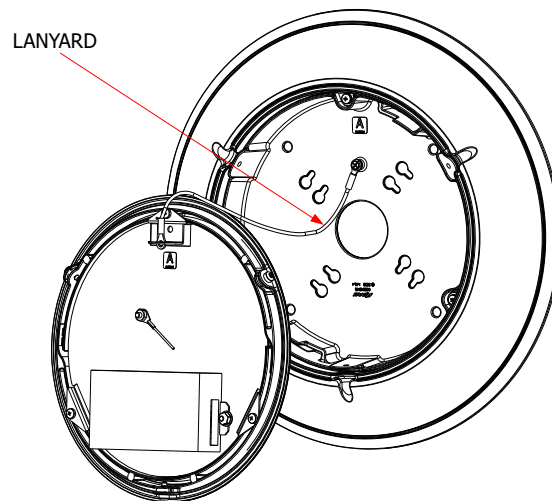

Figure 3
6. To secure the trim section during wiring, it is recommended to attach the trim section to the housing section using the lanyard provided with the housing section and the lanyard bracket on the trim section. See Figure 3.